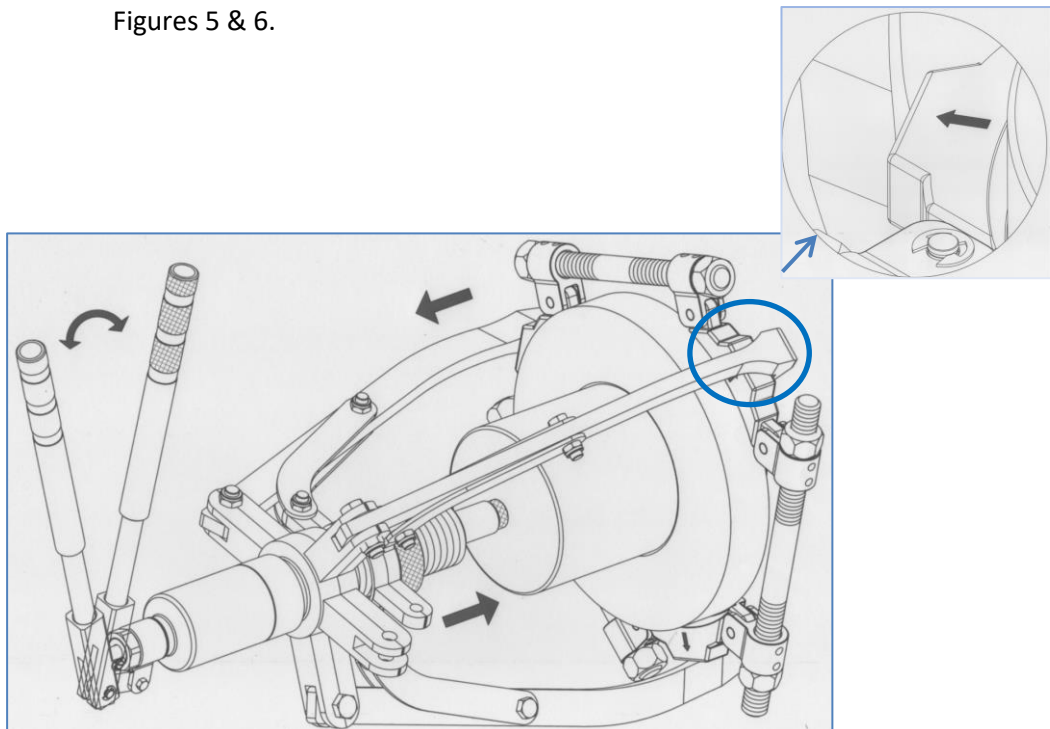

Figure 5 & 6 –Tri-Sectional Plate Alignment
5.2.3 Once satisfied with the plates’ alignment, connect the puller with the plates. Ensure that the puller jaws are fully and tightly engaged with the plates. See Figures 5 & 6.